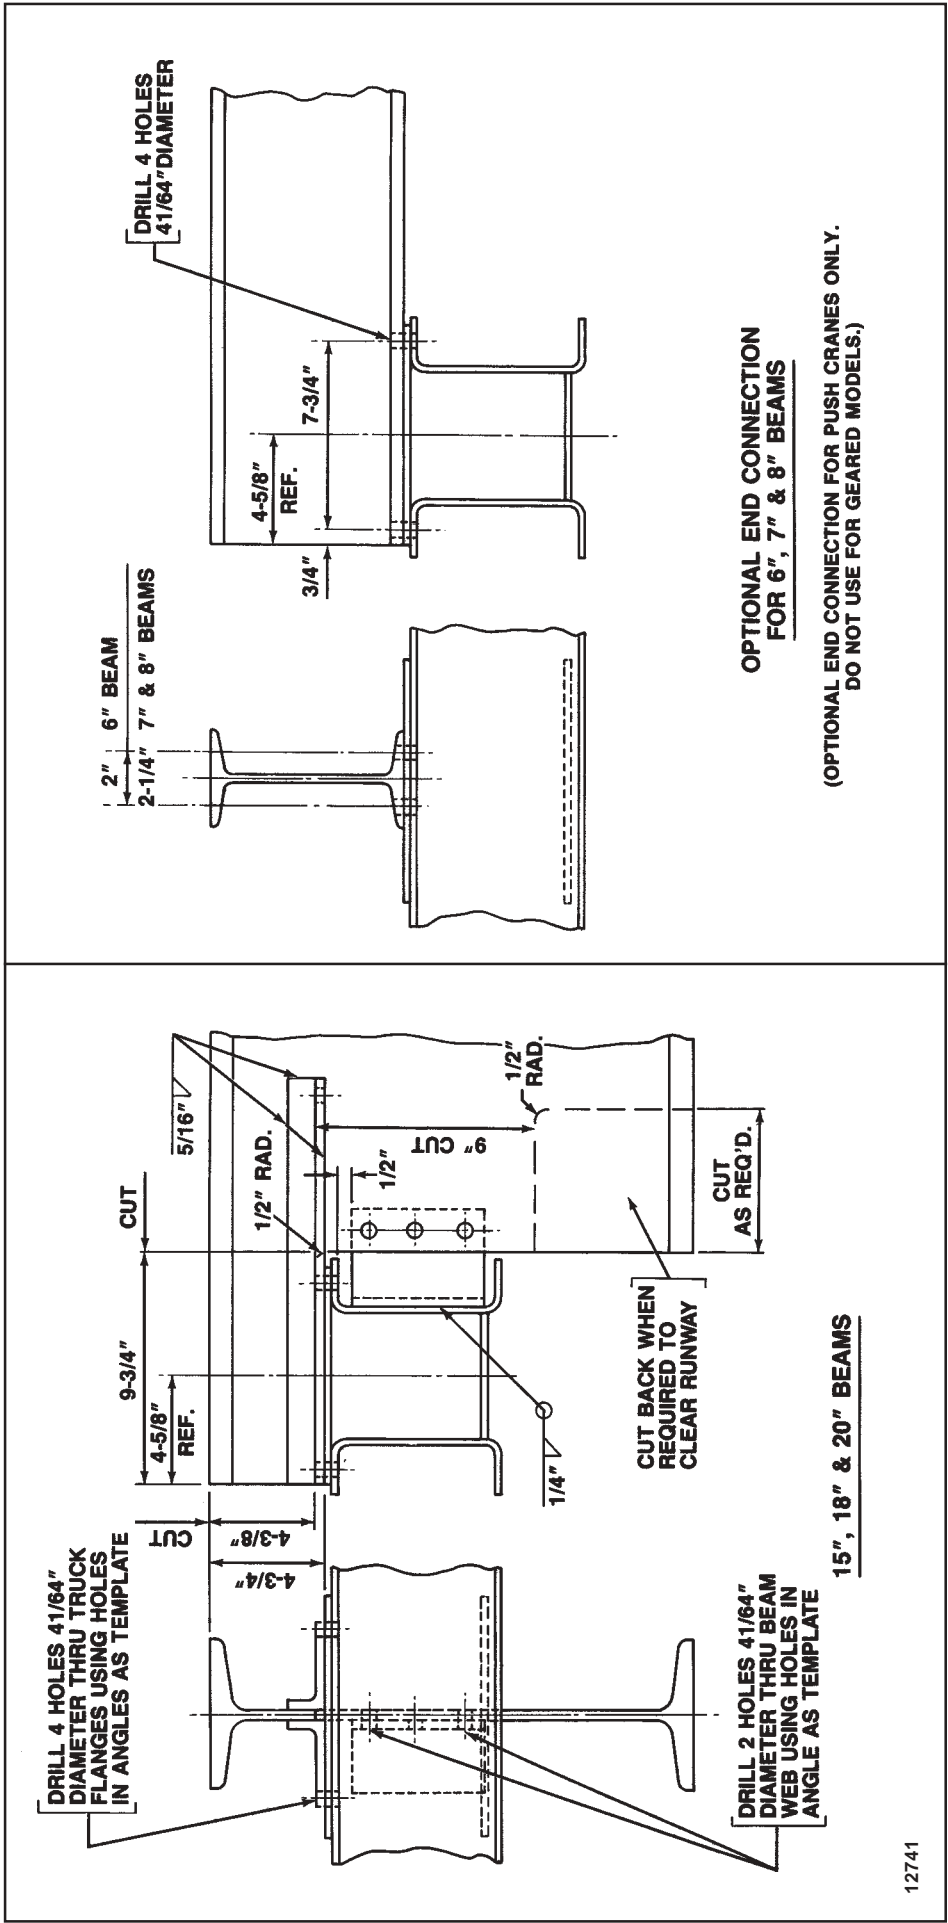

Figure 6. Bridge Beam End Connections.
Note the bridge beam end connections shown in Figure 6. If adequate headroom is available above the truck, there is an optional end connection shown for push cranes for 6", 7" and 8" beams only that does not require notching of the beam.
2. Position long angles from kit as shown in Figure 6 and securely clamp into place.
3. Set up, square, block and securely clamp trucks into position as shown in Figure 6. Make certain trucks are level with each other and are level with bottom flange of bridge beam as shown in Figure 5 (it is possible that top flange of beam may not be level even though bottom flange is). When leveling trucks, use either the centerline of the wheel axles or the diameter of the wheels. **DO NOT LEVEL FROM TRUCK STRUCTURE.** Correct operation of hoist-trolley unit requires that the bottom flange be level.
bridge beam, clamp the short angle in position shown in Figure 6 to secure the position of the beam. Discard short angles for 6" and 7" beams.
7. When all dimensions are confirmed, bottom flange of bridge beam is parallel to wheels of truck and truck is securely clamped to bridge beam, weld the two long angles at each end of the bridge beam to the web as shown in Figure 6.
9. For beams over 7" deep, weld the short angle at each end of the bridge beam to the web as shown in Figure 6.
10. Drill 2 holes 41/64" diameter thru bridge beam web using holes in angle as a template in locations shown in Figure 6, at both ends of bridge.
a. Drill 4 holes 41/64" diameter thru bridge beam lower flange and truck flanges in locations shown in Figure 6 at both ends of bridge.